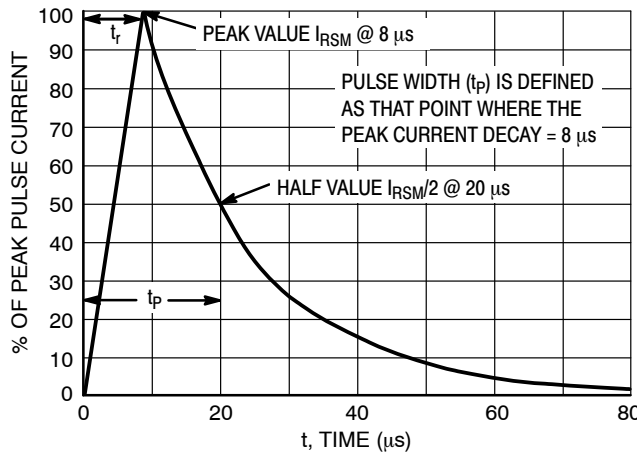

Figure 10. 8 x 20  $\mu s$  Pulse Waveform
- Non-repetitive current pulse at  $T_A = 25^\circ\text{C}$ , per IEC61000-4-5 waveform, See Figure 10.